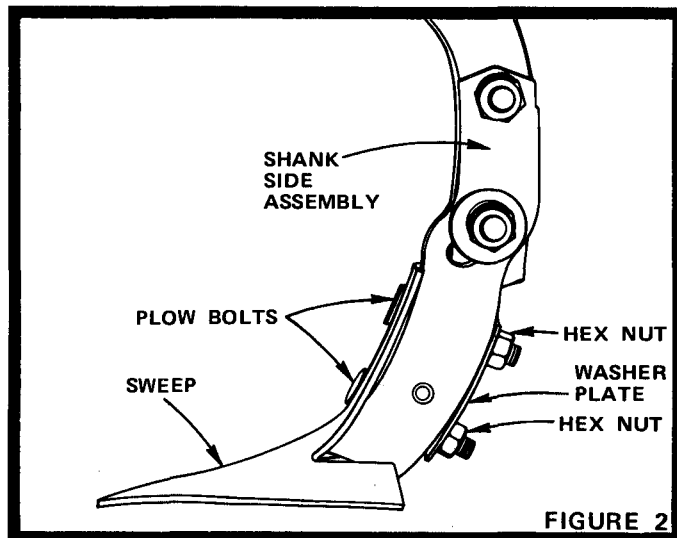

FIGURE 2
10. Assemble Sweeps or Shovels to Shank Side Assemblies of Offset and Straight Shanks with Plow Bolts, Washer Plates and Hex Nuts shipped in bag of parts. Tighten Nuts securely (Fig. 2).